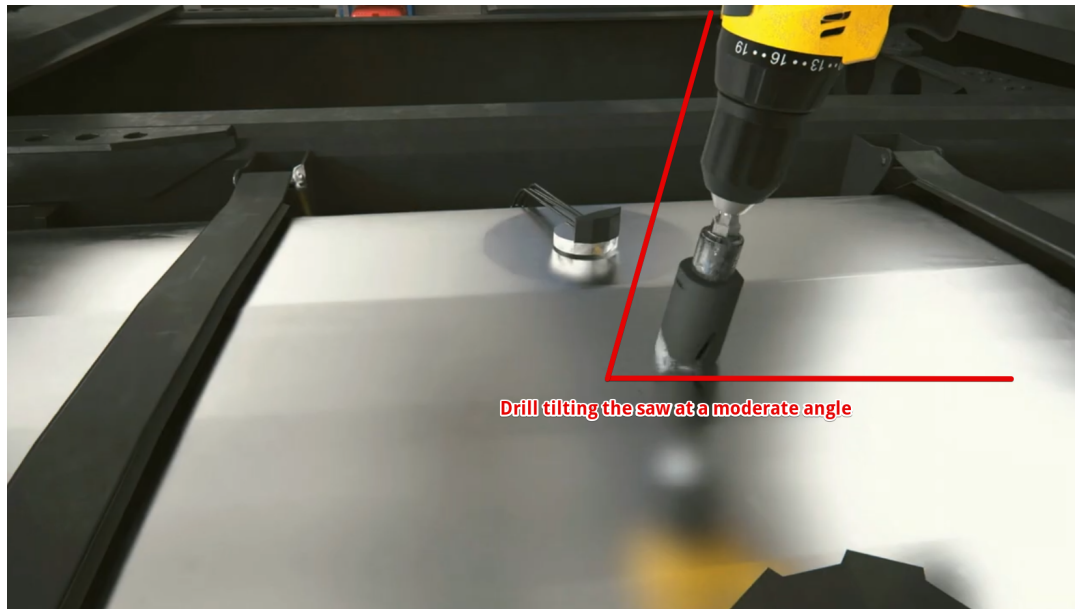

Fig. 32 Drilling a hole at an angle
- If the space around the selected spot is clear, **drill a bigger hole with a \varnothing 30-35 mm bimetallic hole saw**; be sure to tilt the saw a little bit to prevent the cut piece from falling into the tank (**Fig. 32 and 33**). Use a magnet to collect metal shavings and keep them from falling into the tank.